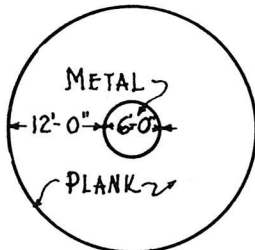

Fig. 5
4. A turn table in a garage, see Figure 5, is to be made of planking with a sheet metal center. How many square feet of surface will be covered by planks?